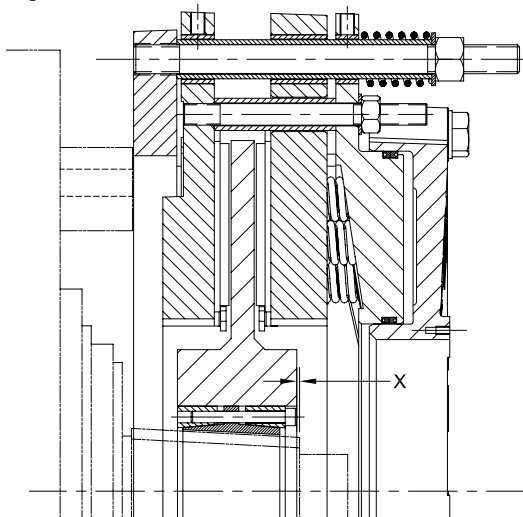

Figure 5
- 2.2.13.2 Using a brass bar or other soft metal bar use a hammer to tap the TSL (8) onto the motor shaft as far in as possible until the internal taper of the TSL bottoms out on the external taper of the motor shaft. This will be detected by the feel of the hammer on the soft metal bar. The hub of the disc (4) should be in-line with the taper end of the motor shaft. See Figure 5.